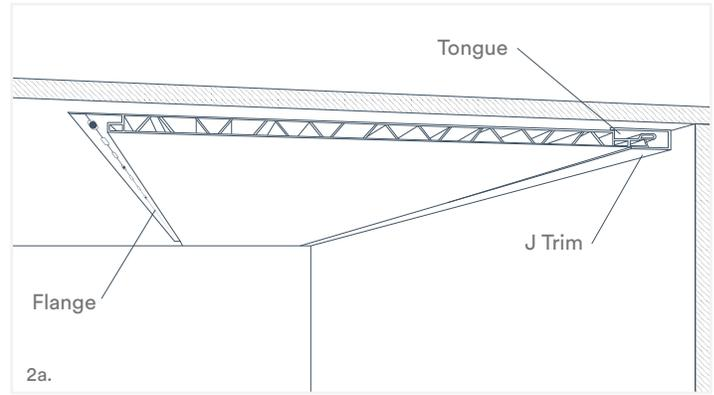
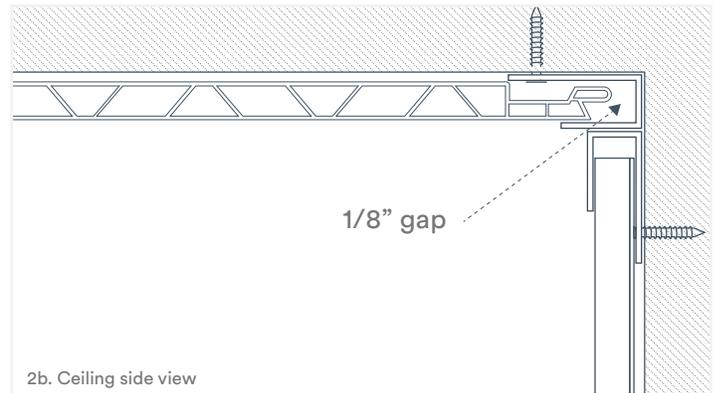

Fig. 5
Fig. 6
2. Cut the length of the first panel for the first course. Place the panel with the tongue side in the trim and the screw flange side facing away from the wall (Fig 5). Ensure the panel is parallel to the outside wall before fastening. Leave a 1/8" gap between the tongue side of the panel and the adjoining trim. Fasten a minimum of once every 24" with the appropriate recommended fasteners. Remember to leave 1/4" of clearance at both ends of the panels for expansion and contraction (Fig 6). **Remember not to over tighten your fasteners.**